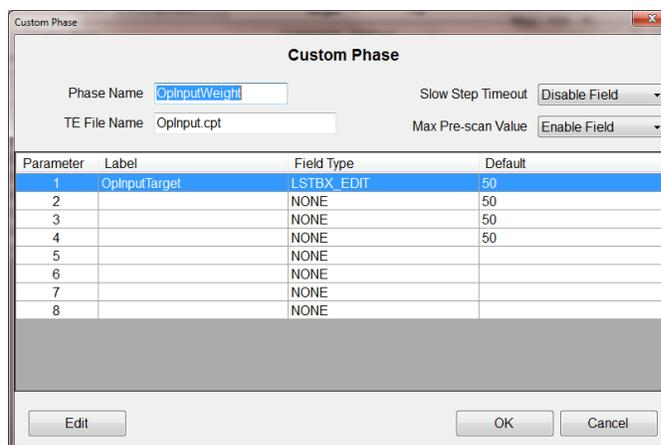

Figure 15-28: Custom Phase Edit Screen
- Enables or disables the Slow Step Timeout field in the Custom Phase screen (Figure 15-28)
- Enables or disables the Max Pre-scan value field in the Custom Phase screen (Figure 15-28). This value can be used to prevent the result of the calculation causing an overload on the
Figure 15-28 also shows a list of eight parameters that can be used to pass data between the TaskExpert program and the recipe. The recipe in the example will use one of these, set to the **LSTBX_EDIT** (List Box Edit) Field Type. The List Box displays the Batch Variables defined in the Variables tab of the Recipe configuration screen, which the Custom Phase uses to transfer data. The List Box Edit field also allows the user to enter their own numeric or alphanumeric text. The parameter allows the user to pass information from a Batch Variable to the TaskExpert program so that it can perform calculations, and then return the resulting data to the recipe.